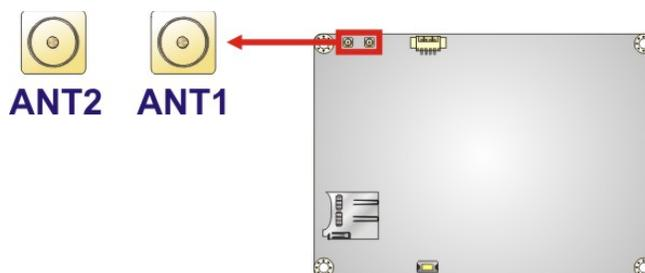

Figure 3-3: Antenna Connector Location
- CN Location:** See **Figure 3-3**